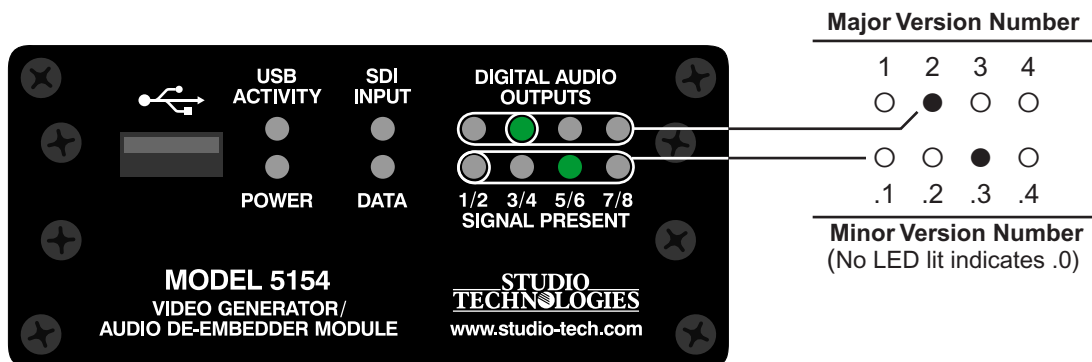

Figure 9. Detail of front panel showing the LEDs that display the MCU and FPGA firmware versions. In this example, the version shown is 2.3.
3. Very shortly after the Power LED lights the USB Activity LED will light to indicate that the MCU firmware version is being displayed by the eight Digital Audio Inputs Signal Present LEDs. The top row of four LEDs will display the major version number with a range of 1-4. The bottom row of four LEDs will display the minor version number with a range of 0 (no LED lit) to 4. Refer to Figure 9 for details.
4. After a few seconds the USB Activity LED will go out and the FPGA firmware version will be displayed by the eight Digital Audio Inputs Signal Present LEDs. The top row of four LEDs will display the major version number with a range of 1-4. The bottom row of four LEDs will display the minor version number with a range of 0 (no LED lit) to 4. Refer to Figure 9 for details.